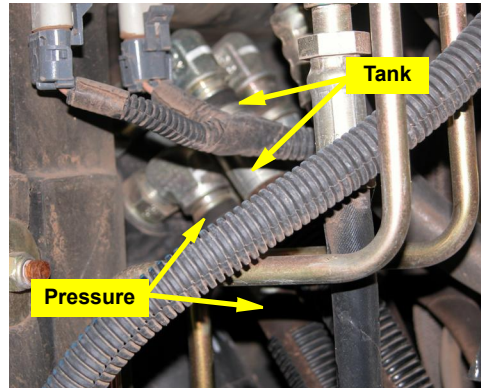

Figure 4c: Pressure and tank hoses at orbital
c. Locate the pressure and tank hose connections at the P and T ports on the orbital and, using the release tool **HN**, disconnect the hoses (Figure 4c).